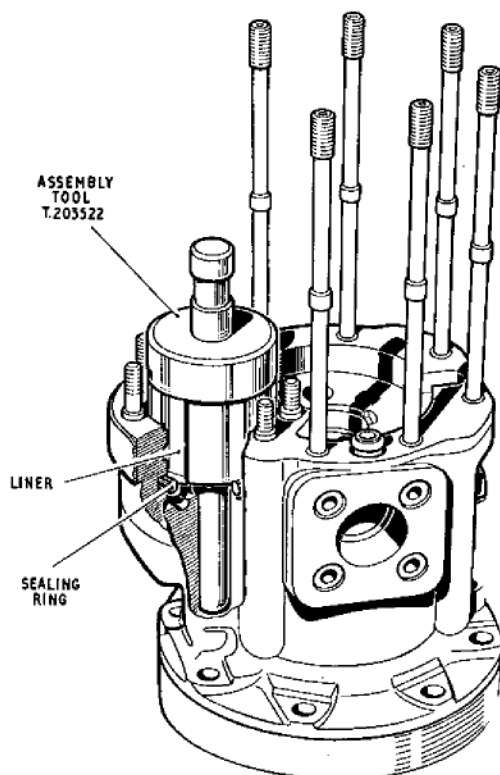

Fig. 6. Fitting the control cylinder liner
60. Mount the pump body on the hydraulic clamp assembly fixture T 265777/H. Fit a new sealing ring to the control cylinder bore in the pump body. Fit the liner, using the assembly tool T 203522, fig. 6.